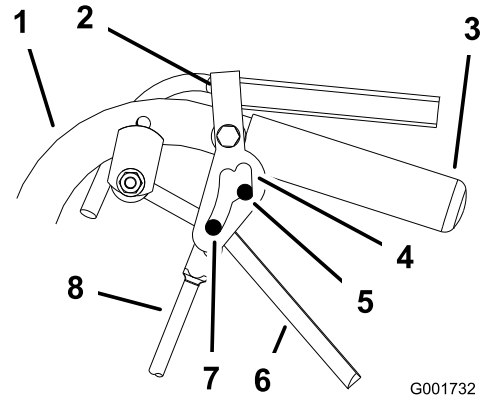

Figure 37
5. Release and engage the neutral lock, and ensure that the tire does not rotate (Figure 37).